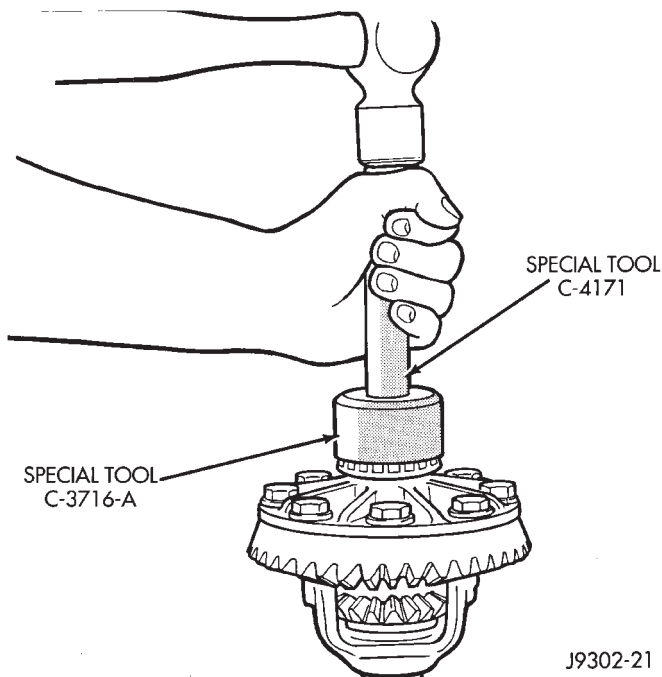

Fig. 61 Differential Bearing Installation
- (6) Remove indicator and pilot stud.
- (7) Remove the differential case from housing.
- (8) Remove the master bearing tools from the differential case hubs.
- (9) Position the backlash shims (with determined thickness) on case hub (ring gear side). Install bearing on the hub with Bearing Installer C-3716-A and Driver Handle C-4171 (Fig. 61).
- (10) Position the remaining zero end-play shims on hub at opposite side of case. Include an additional 0.015 in. (0.38 mm) thick shim on this hub. This will provide the required differential bearing preload.
- (11) Install bearings on hubs with Installer C-3716-A and Handle C-4171 (Fig. 61).
- (12) Match each bearing cup with bearing (original). Install the cups on the bearings.